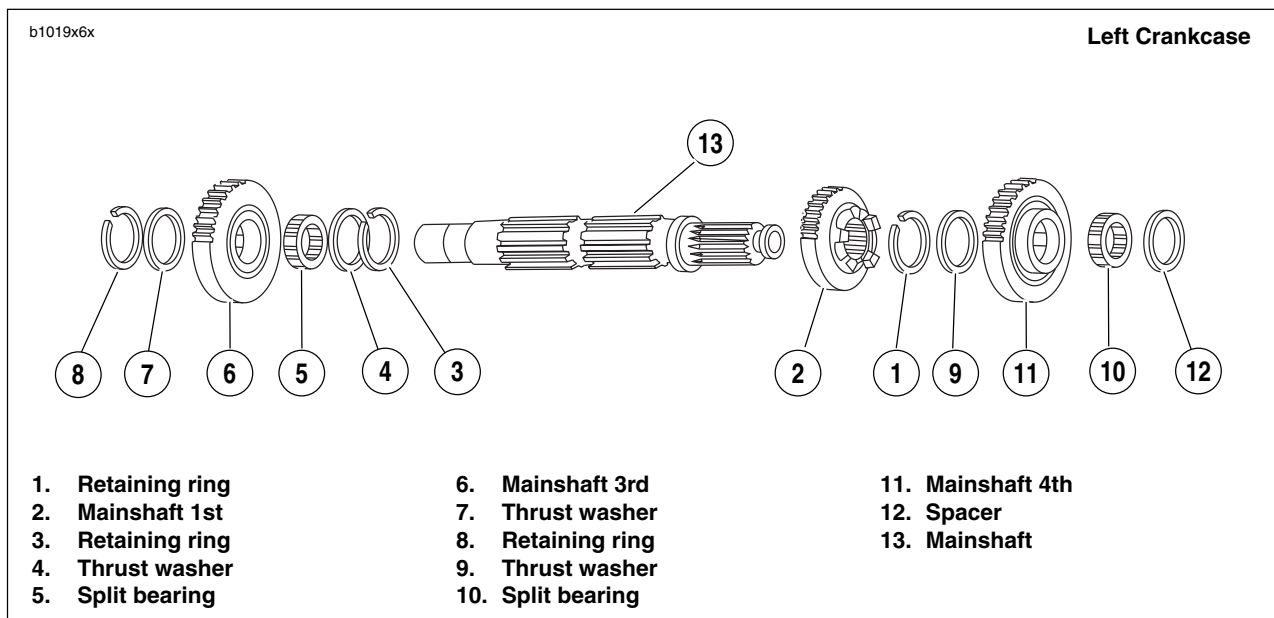

Figure 6-68. Transmission Mainshaft Assembly/Reassembly
1. See Figure 6-68. Install **new** retaining ring (1) onto mainshaft in the first ring groove from the threaded end of the mainshaft.
2. Slide mainshaft 1st gear (2), identified by two grooves in gear teeth, onto mainshaft with the fork groove facing mainshaft 4th gear (10).
3. See Figure 6-68. Install **new** retaining ring (3).
- a. Install thrust washer (4) onto mainshaft.
- b. Install split bearing (5) onto mainshaft.
- c. Install mainshaft 3rd gear (6) onto shaft over bearing (5). 3rd gear is installed with shifting lugs away from 1st gear mainshaft.